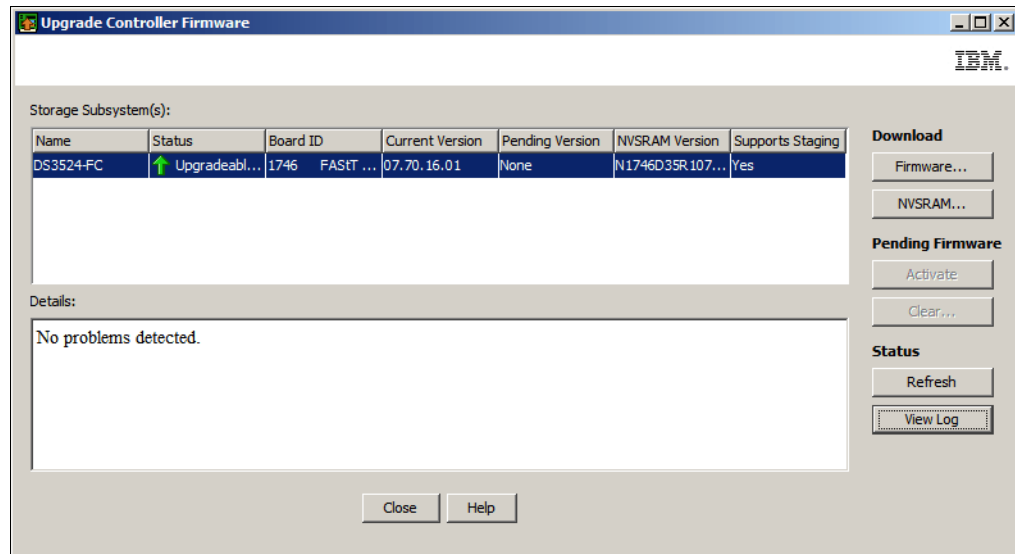

Figure 14-39 Upgrade Controller Firmware
3. If the firmware upgrade tool does not detect any problems that would prevent the upgrade, the tool reports a status of *Upgradeable*, as shown in Figure 14-39.